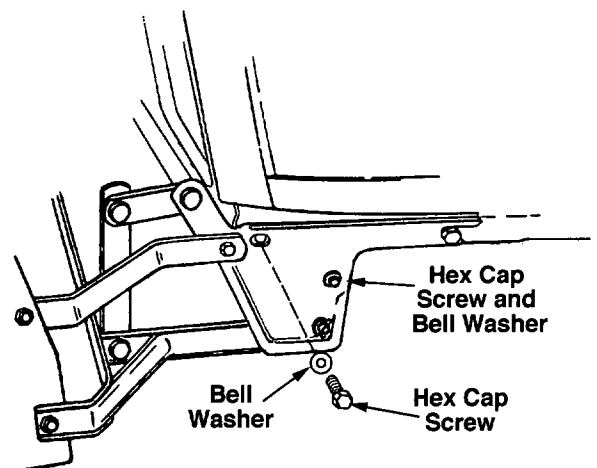

Figure 14
5. After making certain the support rod has locked into the tractor quick attach, tighten the hex cap screws and bell washers securing the rod. Secure the mounting brackets to each side of the tractor frame using the hex cap screws (2-11) and bell washers (2-12). Refer to Figure 14.